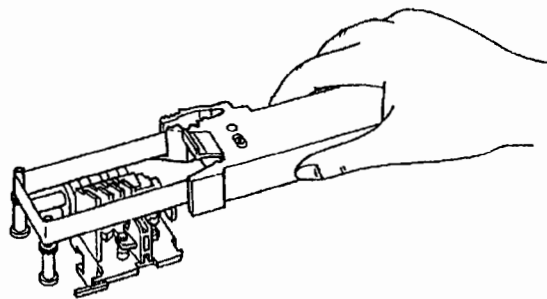

Figure 6.4
- (5) Move the ribbon cassette approx. 20 mm to the right beyond the printer carriage with the ribbon passed through the two guide pins. (Figure. 6.4)